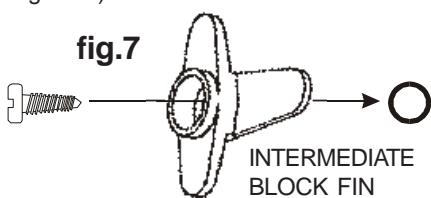

fig.7
- Fix the intermediate blocks (with appropriate screws) making sure that blocking fins can rotate freely (see Figure 7).